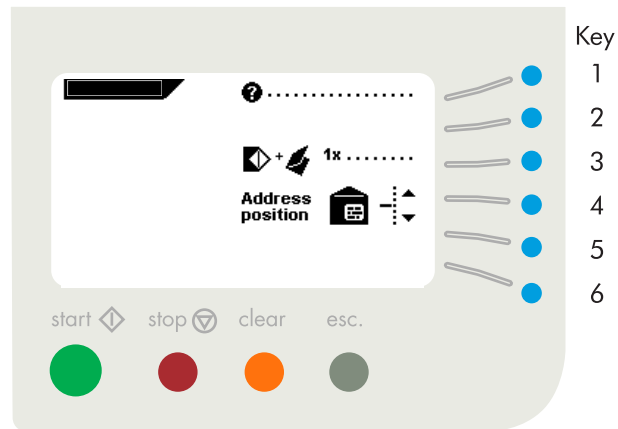
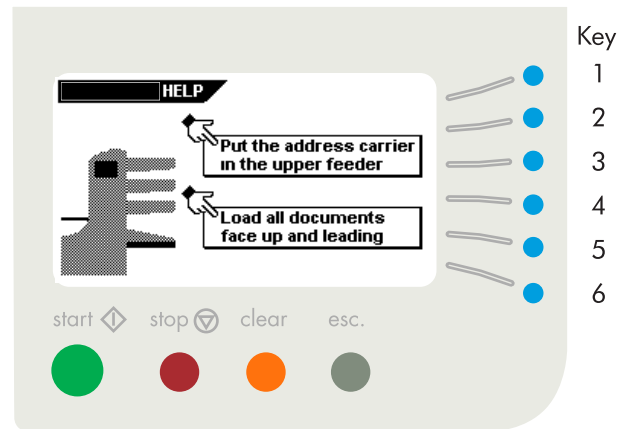

Fig. 26
Fig. 27
AutoSet™ help (key 1). The screen in fig. 27 is shown and gives suggestions for the AutoSet™ usage.
- feed one envelope onto the insert table (key 2). This function is used for checking the insert position (= envelop stop position).
- make a testset run (key 3). After pressing this key the setting of the insert position will be saved. The screen as shown in fig. 26 will be displayed.
- set the insert position to the right (key 5).
- set the insert position to the left (key 6).
When the testset run is started the display shows the AutoSet™ menu (fig. 26), extended with the possibility of adjusting the address position. If needed adjust the address position as follows: